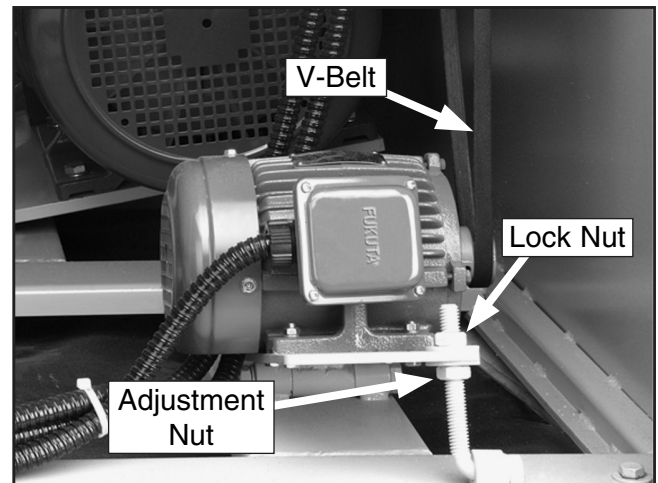

Figure 34. Table elevation V-belt.
- Loosen the lock nut (**Figures 34 & 35**).